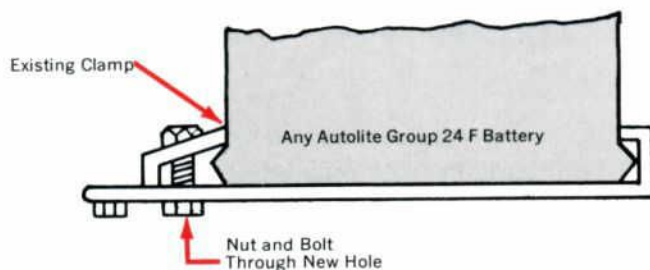

Figure 2—Side View of Battery Tray
2. A nut and a $\frac{5}{16}$ x 18 hex bolt two inches long is required to secure the battery holddown clamp in its new position. See figure 2.